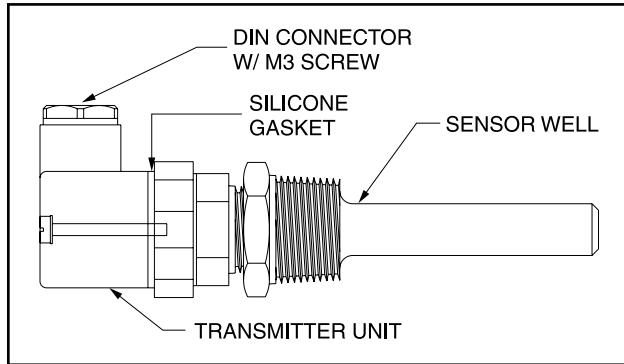

Figure 35 - Temperature Transmitter
2. Remove DIN connector plug from transmitter. See Figure 35.